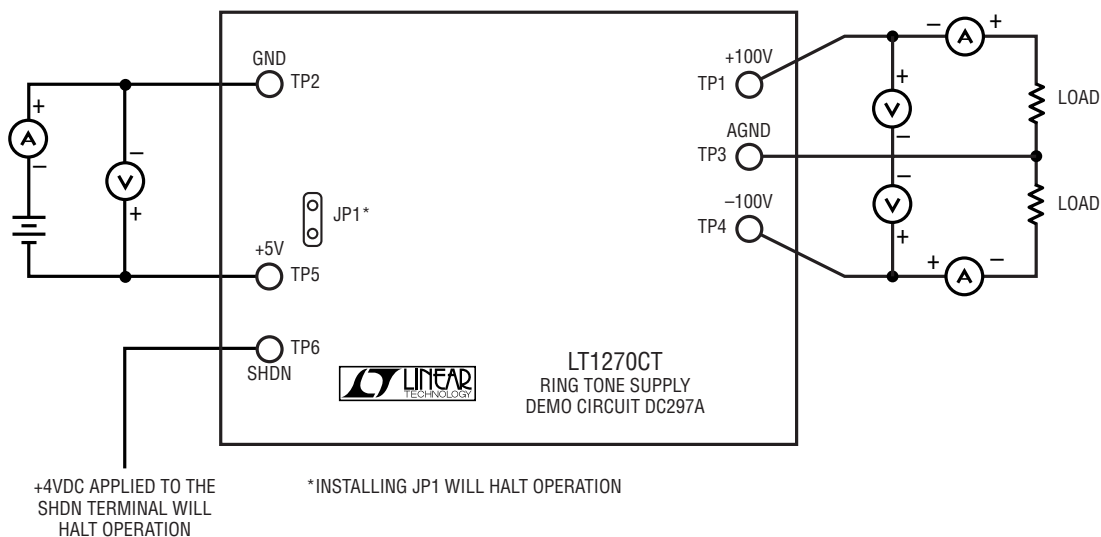

Figure 1. DC297A connection diagram
1. Connect a 5VDC input source capable of at least 7.5 amps to input terminals TP2 and TP5 (see Figure 1 for proper power supply and test equipment connection). If the power source is adjustable, be sure to set the output voltages correctly before connecting the supply to the demo board. At high output load currents, it may be necessary to increase the output of the 5 volt supply to maintain the 5V at the input terminals because voltage drops on input cables can be substantial. Input capacitor C9 is rated at 6VDC. If a 15VDC-rated cap is substituted, the input voltage may be raised to 12VDC.